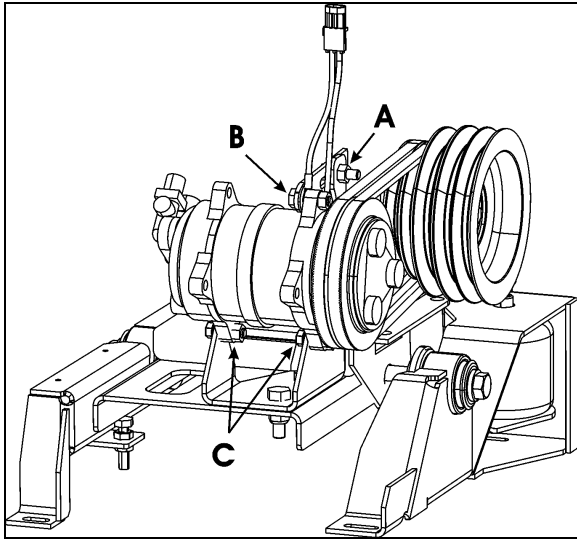

FIGURE 40: COMPRESSOR REMOVAL/ INSTALLATION
- Slacken bolts A (Figure 40).